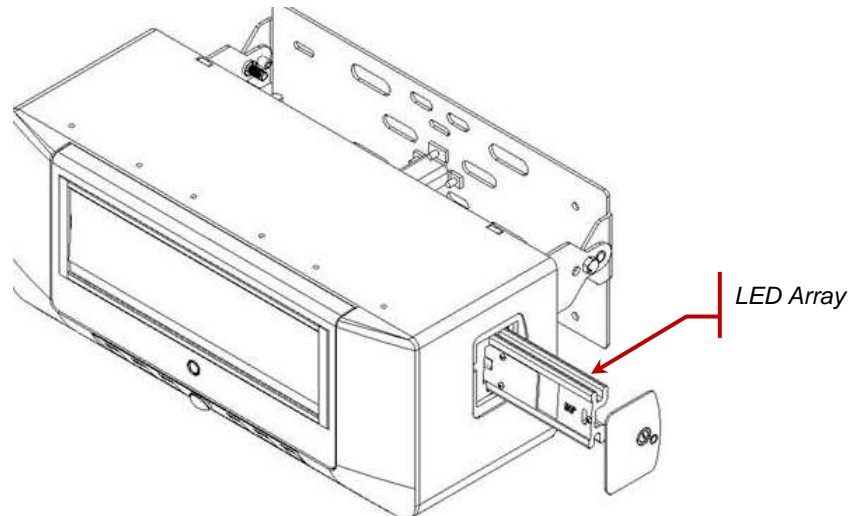

Figure 15 LED Array Partially Removed
4. With your fingers, remove the LED array. Refer to Figure 15.